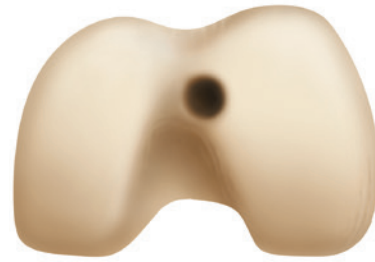

Figure 5
- 1 Open the femoral canal with the 9.5mm Intramedullary Drill. The drill has a 12mm step to open the entry point further. If desired, use the drill to open the tibial canal at this step (Figure 5).